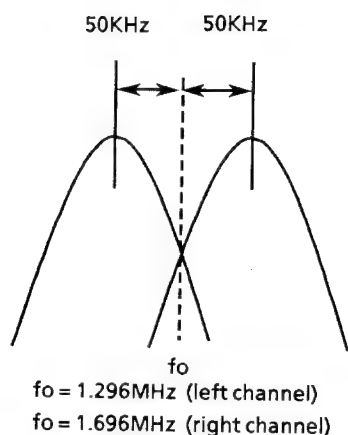

Figure 2-17
- (1) Select channel "00" to place the unit in A/V input mode and feed the audio signal shown above to the AUDIO IN jack.
- (2) Connect a spectrum analyzer to test point TP6307. (Use the shield case near by the test point for ground lead.)
- (3) Adjust R6327 [R6341] so that the spectrum is as shown in Figure 2-17.